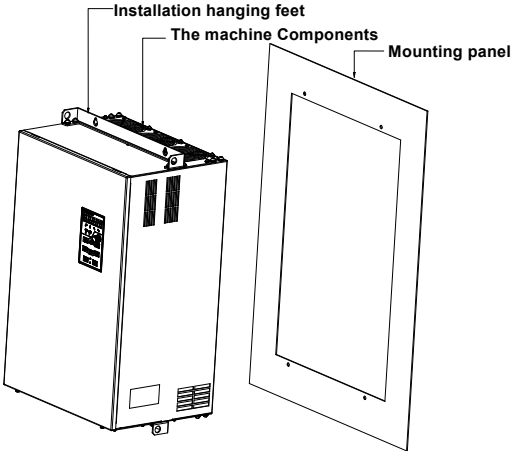

Fig.3-6 15.5~200kW Wall installation
5.5~200kW Install the drive mounting bracket as shown in FIG 3-6. Wall installation dimensions refer to Chapter II (table 2-4) , As shown in Fig drilling four holes in the mounting surface, Put the inverter against the panel and mate 4 holes, and then tighten screws in the 4 holes tighten any of the 2 screws in diagonal position, tighten 4 holes with screws for strengthened installation.